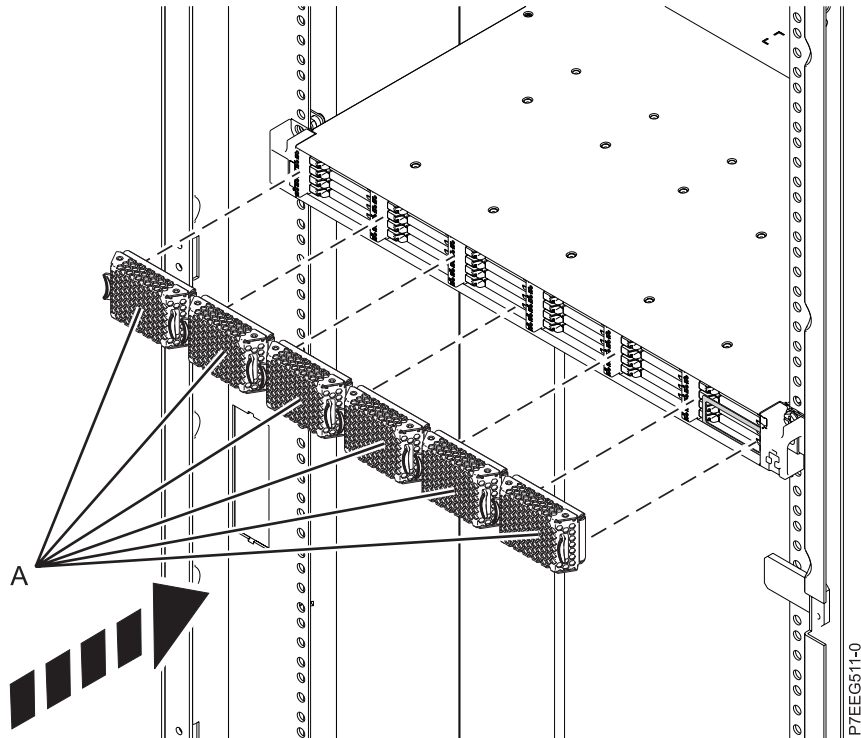

Figure 18. Installing the SSD EMC bezels
- g. Install the six SSD EMC bezels (A) to cover the slots that contain the SSDs, as shown in Figure 18 on page 16.